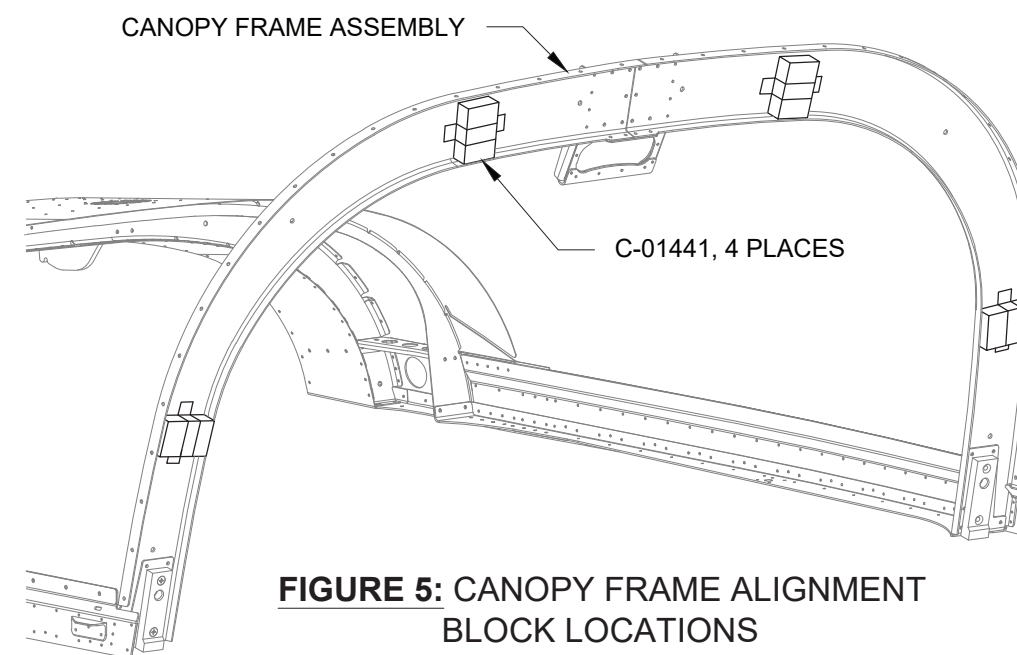

FIGURE 5: CANOPY FRAME ALIGNMENT BLOCK LOCATIONS
Step 7: Tape the C-01441 Canopy Frame Alignment Blocks to the Canopy Frame Assembly approximately as shown in Figure 5.